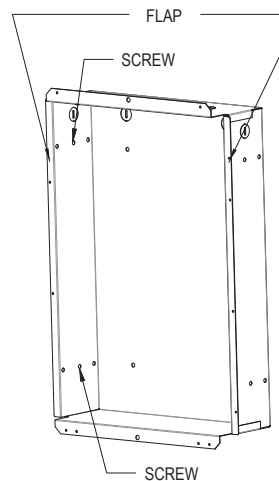

Figure 7
2. Unscrewed the two (2) screws holding the grille (see figure 7) and remove.
8. Put back the grille and tighten with two (2) screws removed previously (see figure 7).
2. Unscrew the two (2) screws holding the grille (see figure 7).